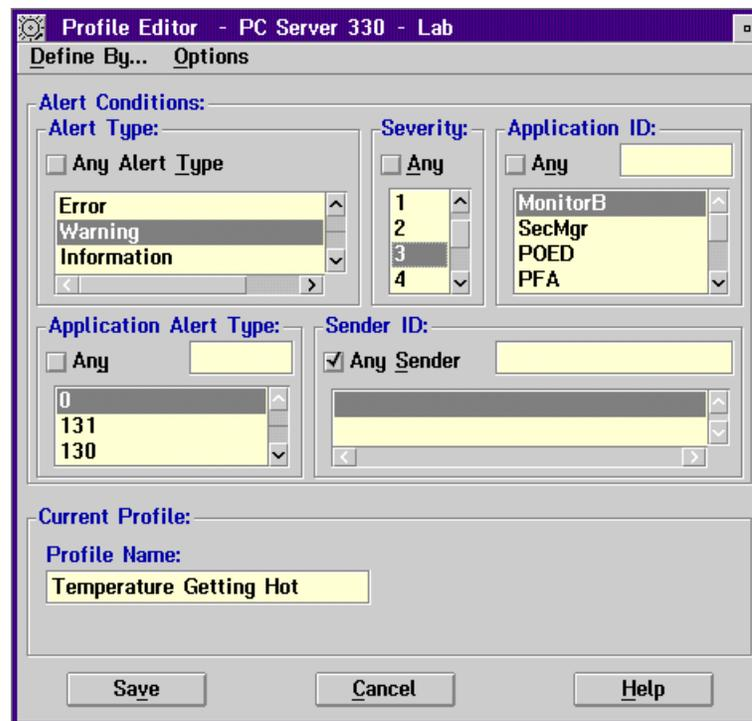

Figure 98. Profile Editor for 40°C Alert
For the 40°C alert, we would get a severity 3 warning and at 50°C mark we would get a severity 1 error. The alert conditions are for the 40°C mark can be seen in Figure 98.
11. Save the defined profile. This action will now appear in the Profile List window of the Alert Profiles window. The profile editor will look like Figure 98 on page 137 at this point.